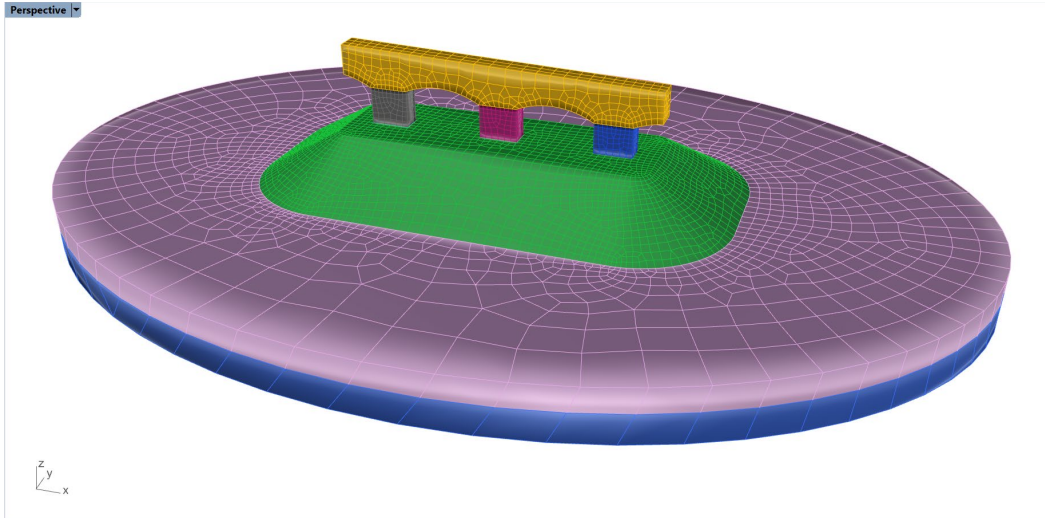

Figure 29: Mesh from Figure 28 “exploded” into sub-meshes, which are subsequently colored.
24. Select all (36) meshes and use *Griddle*’s command **\_ColorizeObjects** or click on the  icon in the *Griddle* toolbar. This will assign a unique color to each *Rhino* object (Figure 29).